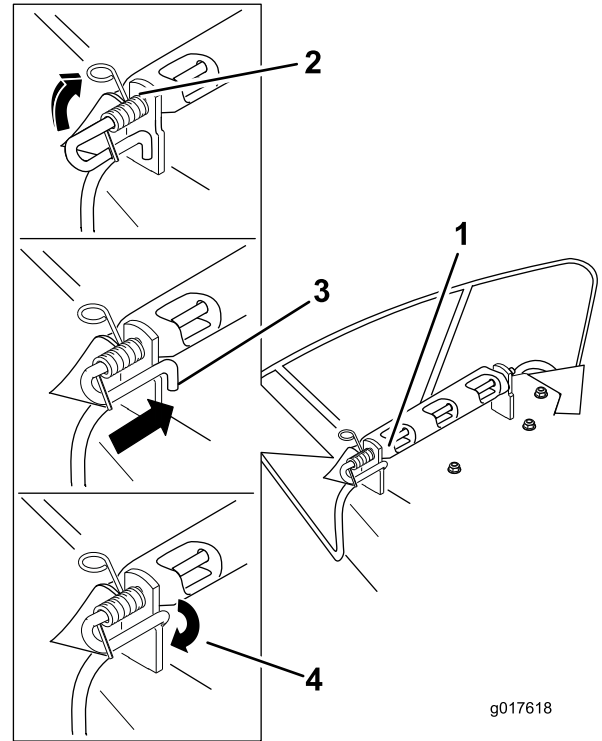

Figure 66
6. Lift the loop end of the spring and place it into the notch on the deflector bracket (Figure 66).
7. Secure the rod and spring assembly by twisting it so the short end of the rod is placed behind the front bracket welded to the deck (Figure 66).
3. Position the new discharge deflector with the bracket ends between the welded brackets on the deck as shown in Figure 66.